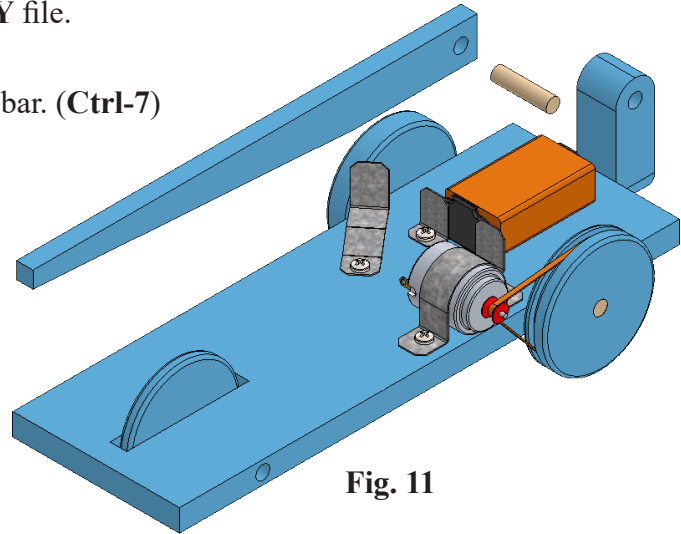

Fig. 11
Step 6. Place Front Axle as positioned in **Fig. 11**.
Step 8. Click **Browse** in the Property Manager and insert **Cross Support**, **Fig. 11**.